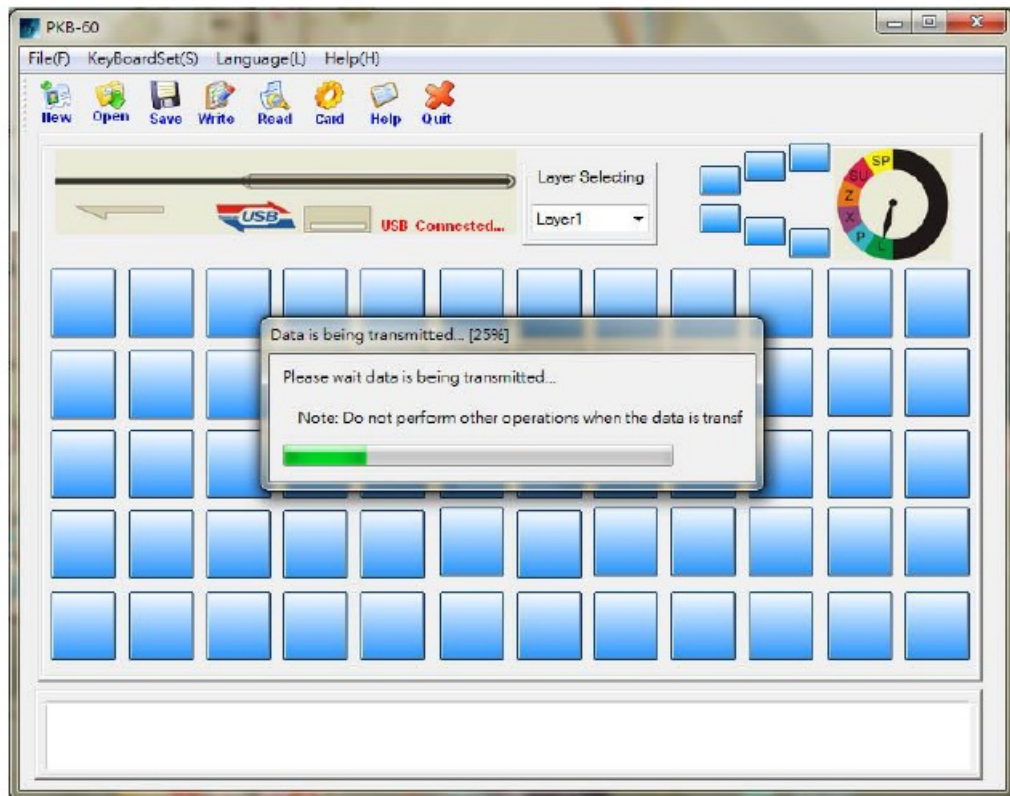

Figure 3.1.1
Step 1. Before programming any key, please read the default key value from your PKB-60 keyboard first by pressing [Read] button. It will pop up the dialogue that data is transferring, see Figure 3.1.1